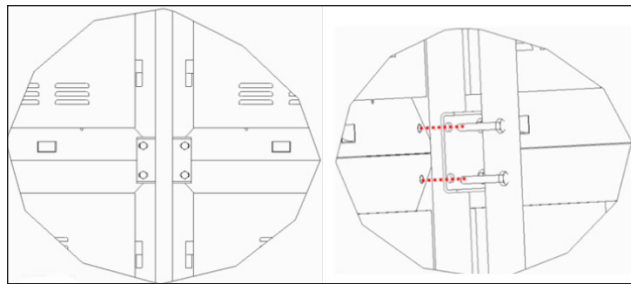
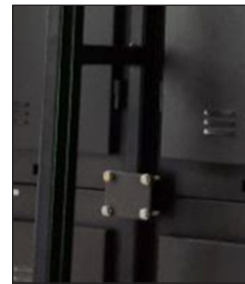

Figure 11: Attachment Plate
Figure 12: Attachment Plate
2. Install attachment plates and corresponding bolts between sections. Refer to **Figure 11** and **Figure 12**.